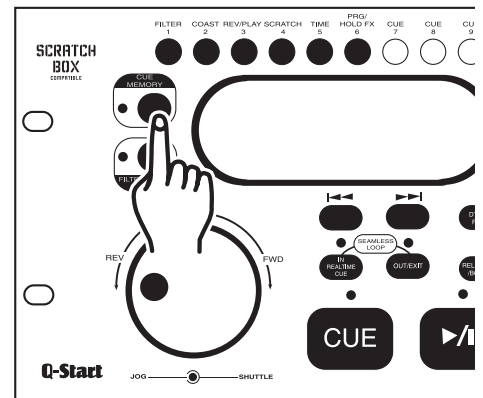

Figure 20
**Storing A Cue Point:** Once you have set a cue point by one of the two means as detailed above, you may store this point in any one of the *CUE MEMORY BUTTONS (6)*. Once a cue point is stored in to memory it may be recalled at any time by pressing the cue button it was stored into. A cue point may even be recall if the disc has been remove or power had been disconnected. **To Store a cue point:**
- 1) Create a cue point, press the *CUE MEMORY BUTTON (6)*, as in Figure 20. The yellow Cue Memory LED will glow. This indicates a cue point is ready to be stored in to memory.